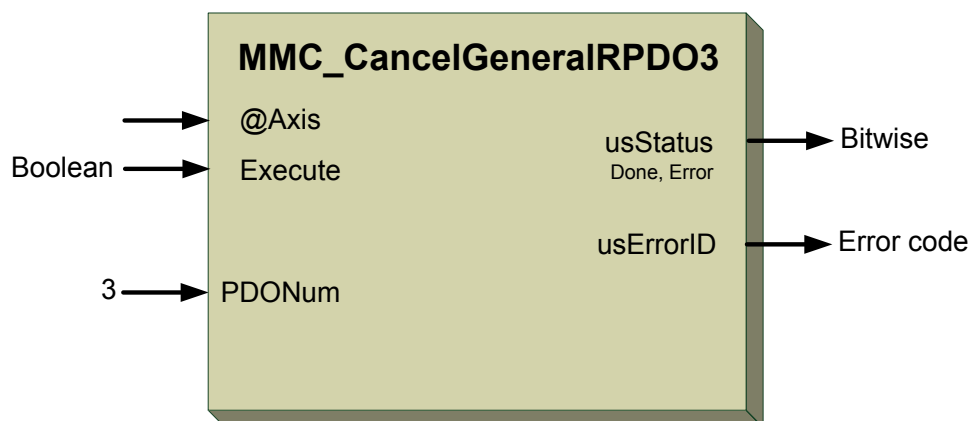

Figure 16-98: MMC\_CancelGeneralRPDO3 function block
**Figure 16-98** describes the function block for MMC\_CancelGeneralRPDO3 as applied within the IEC 61131 programming.